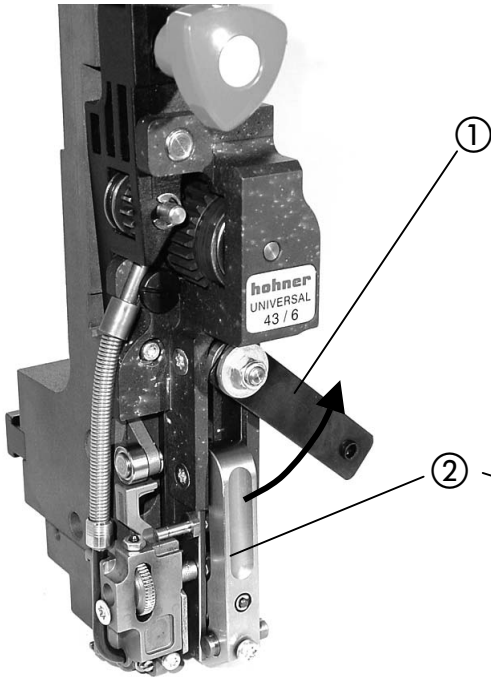
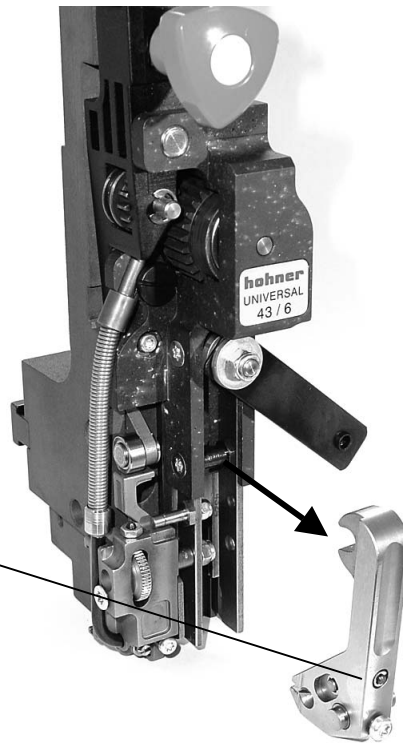

Fig. 24
Fig. 25
- Fig. 24, Fig. 25 -
- Turn leaf spring ① to the side and remove former ② forwards.